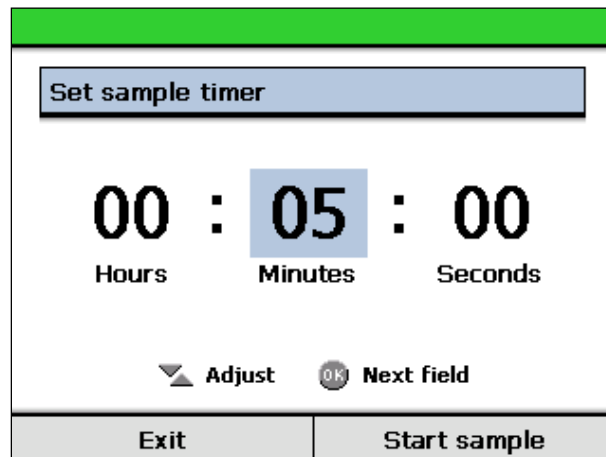

Figure 38 - Timed sample setup
- From the main menu select 'Timed sample' then select 'Start new sample...'. The timed sample setup screen will be shown (Figure 38).